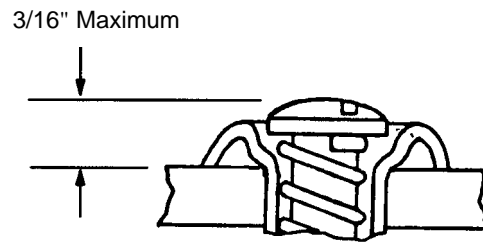

Figure 11 - 2600 Series Stud Head Height
- 6.5 When measured from the external surface of the panel, the maximum head height of 2600 series studs, when down and locked, shall be 3/16" (see Figure 11).